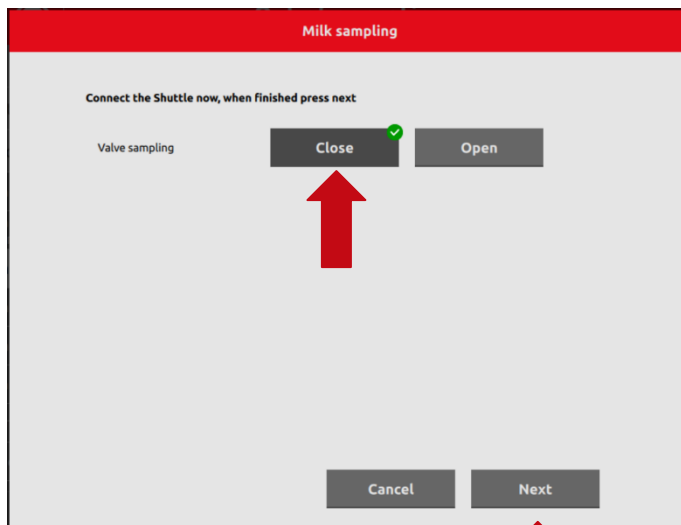

Figure 42. Milk sampling menu
8. On the Milk Sampling menu, click on Close and next, see the figure 42